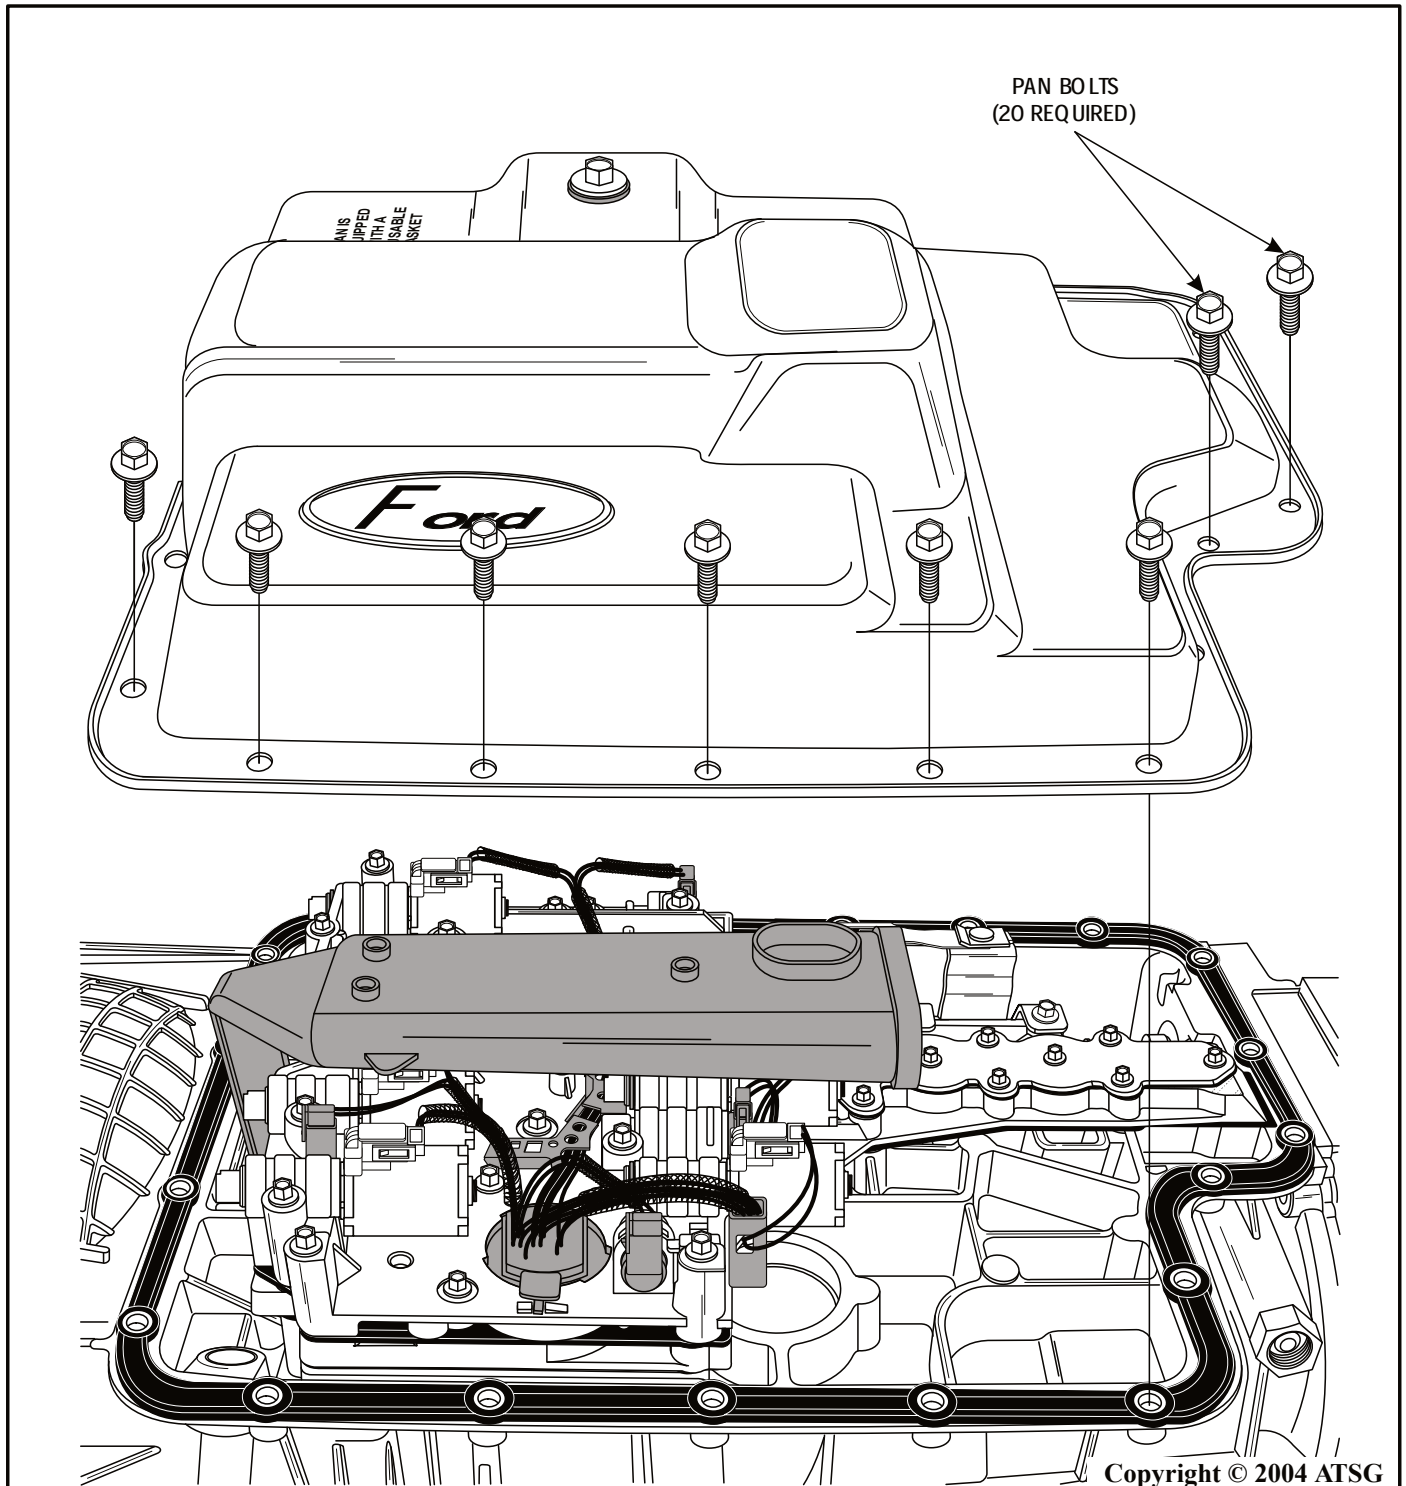

Figure 183
42. Install the oil pan, as shown in Figure 183, and install the 20 pan bolts.